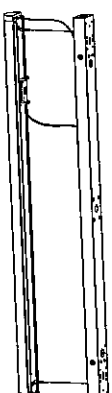

Figure 11
- Step2. Assemble the DC sensor to the corresponding position (Figure 11).